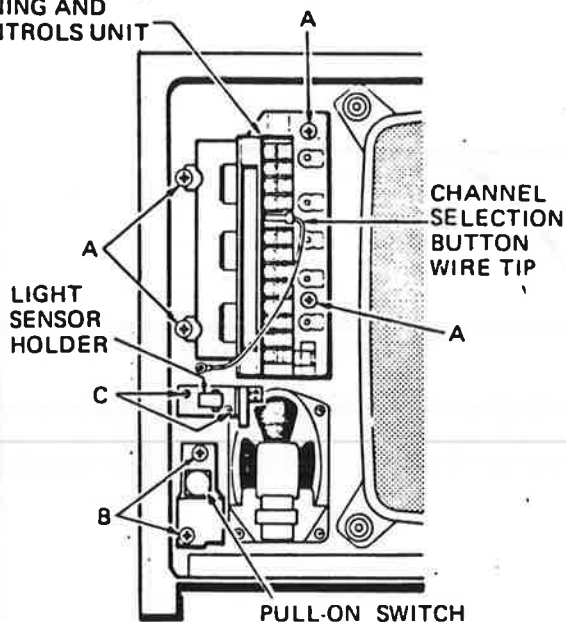

Figure 2 - TUNING AND CONTROLS UNIT REMOVAL
3. Refer to Figure 2. Pull off Channel Selection Button wire tip. Remove screws-A (4 screws), then remove Tuning and Controls unit from cabinet.
2. Pull off Pull-On/Volume knob. Refer to Figure 2 and remove screws-B (2 screws), remove Pull-On Switch Controls Bracket.
3. Refer to Figure 2 and remove screws-C (2 screws), remove light sensor holder.